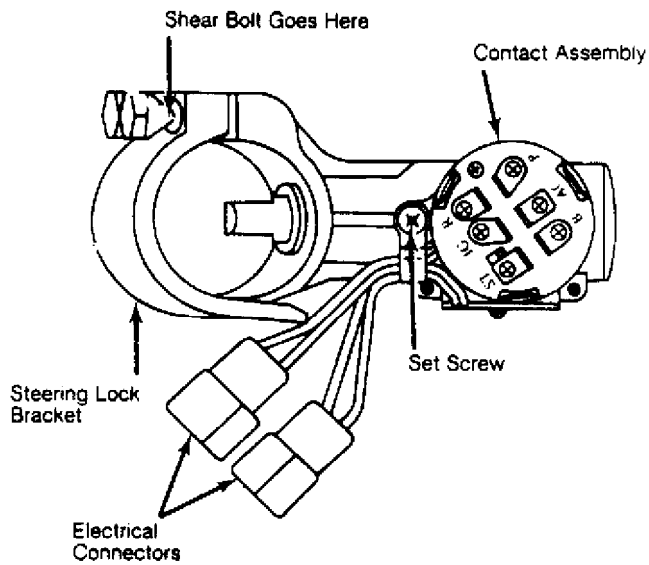

Fig. 2: Exploded View of Ignition Switch (Except Pickup)
2) Remove screw attaching switch contact housing to steering lock body and slide out contact housing. See Fig. 2.